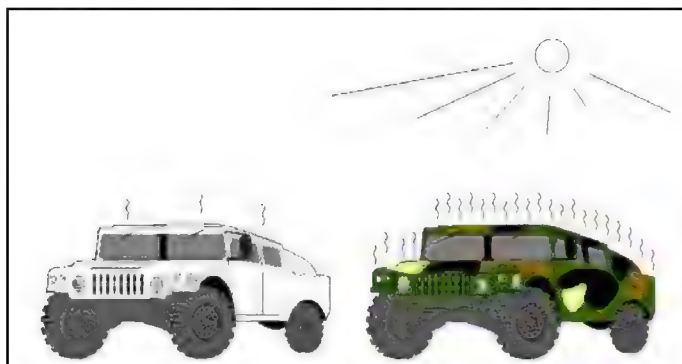

Figure E-5. Infrared affected by color.
(1) **Color.** Light colored objects, such as a vehicle with desert camouflage, reflect more IR than they absorb, and heat slowly in the sun (Figure E-5). Dark colored objects, such as a vehicle with woodland camouflage, absorb more IR than they reflect, and heat quickly in the sun.